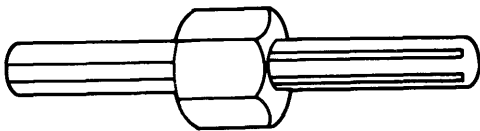
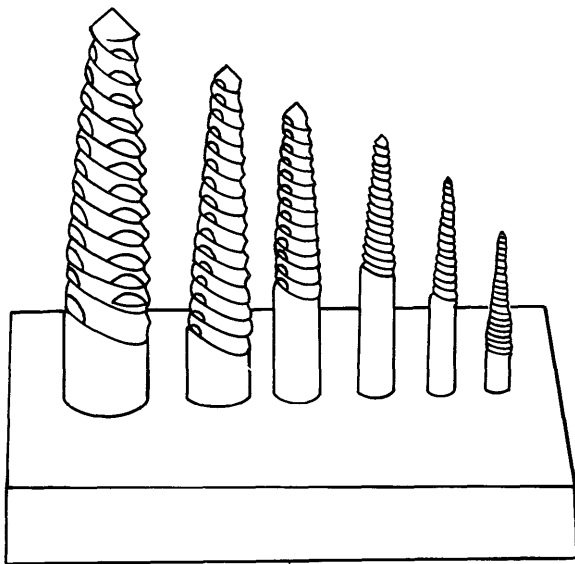

Figure 4-107. Straight Screw Extractor
Figure 4-108. Spiral Screw Extractors
(1) Screw extractors. Some screw extractors, as shown in figure 4-107, are straight. They have flutes from end to end. These extractors are available in sizes to remove broken screws having 1/4 to 1/2 inch outside diameters. Spiral tapered extractors, shown in figure 4-108, are sized to remove screws and bolts from 3/16 inch to 2 1/8 inches outside diameter.